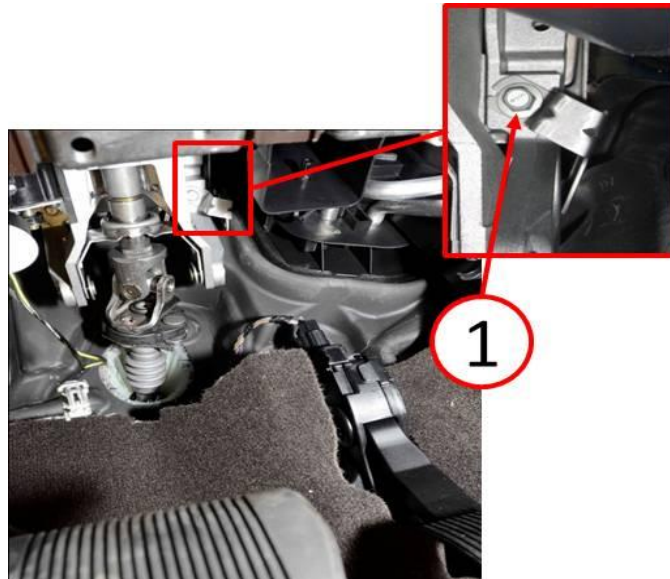

Fig. 3 Steering Column Bracket Removal
4. Remove the fastener (1) securing the steering column lock control module wiring harness bracket to the steering column and discard the steering column lock control module wiring harness bracket(Fig. 3).